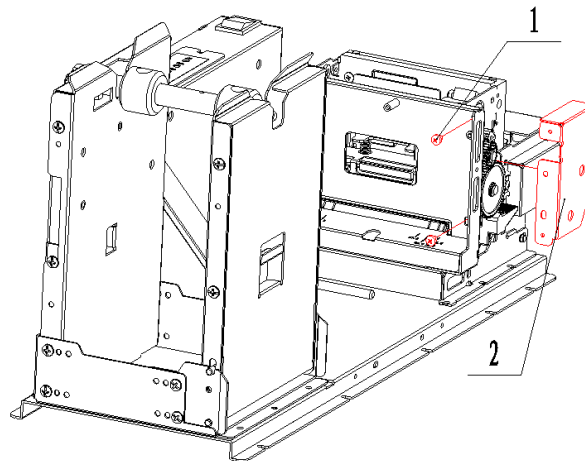

Fig. 5.2-2 Cleaning paper end sensor
3. Screw down two M2.5-4 pan head bolts(see item 1 in Fig. 5.2-2) with a cross screw driver, and dismantle the cover from the print motor shown as in Fig.5.2-2;